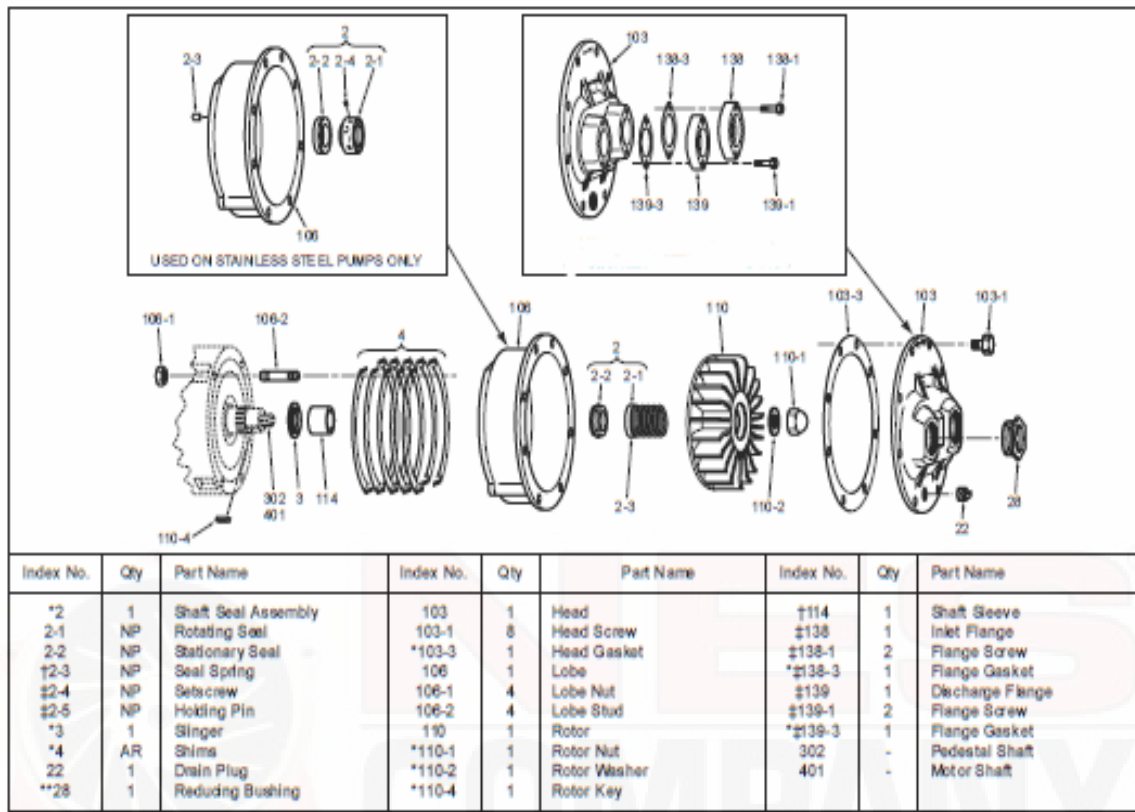

Fig. 9.1 Exploded View of NES NHF 50, 80 and 120
- a. At each of the intervals mentioned (and during any maintenance/repair work), it is also advisable to inspect the pressure boundary parts (i.e., body, heads, lobe, bracket, manifolds, and manifold cover. Refer to Figures 9.1 to 9.4). If signs indicate, isolate the equipment and water-pressure-test the pump to 1.5 times the working pressure to determine the extent of the damage. Replace faulty components immediately to prevent danger to personnel and plant equipment.
- c. Thoroughly examine the pump for any indications of leakage from the mechanical seal (Index No. 2 Figure 9-1 to 9-14). If there is evidence of seal liquid leakage, replace the mechanical seal following the instructions outlined in the appropriate Maintenance Bulletin (refer to Table 1-1).